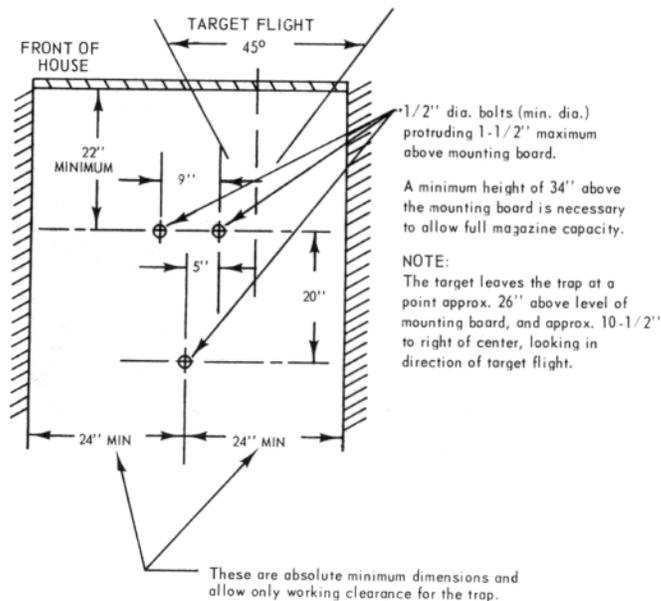

Figure 4 – Minimum layout
1. Attach the trap to a solid base by 3 bolts or lag screws of at least 1/2" diameter (see Figure 4). **NOTE:** Care must be taken to insure that the two front mounting bolts extending above the mounting feet do not interfere with the free motion of the front of the trap – particularly the damper on the right side and the mainspring on the left side.
Mounting must be level to insure that right-hand and left-hand targets will have the same elevation. Adequate room must be left around the front of the trap to allow free travel of the lower housing as well as the platform at any elevation angle (refer to Figure 4). Keep in mind that loading the magazine and periodic servicing will be made easier if clearance for a man is left around the trap.